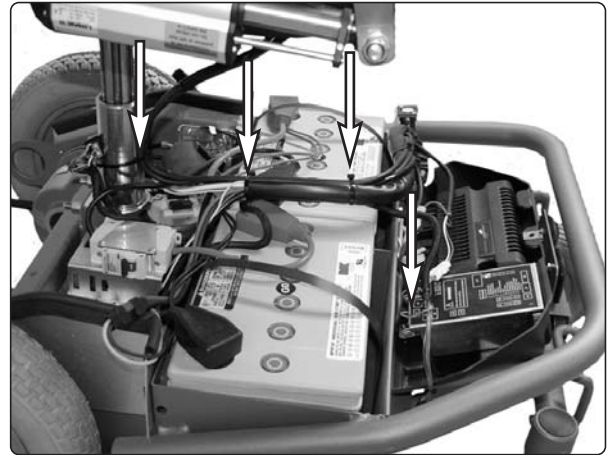

Fig.29. Seat lift cable.
5. Disconnect the seat lift cable, see fig. 29.